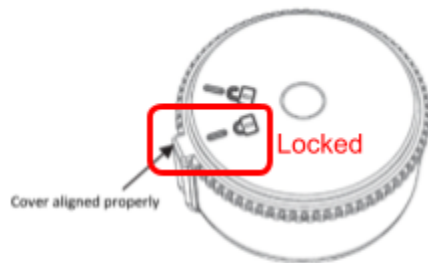

Figure 4: Aligning the cover and logger case to close the battery compartment.
- i. While pushing down on the cover, rotate it clockwise until the tab is aligned with the double-ridge in the logger case (Figure 4). Rotate the locked icon so that the icon moves from the unlocked to locked position (Figure 4). When the cover is properly positioned, the tab and the locked icon will be aligned with the double-ridge in the logger as shown.